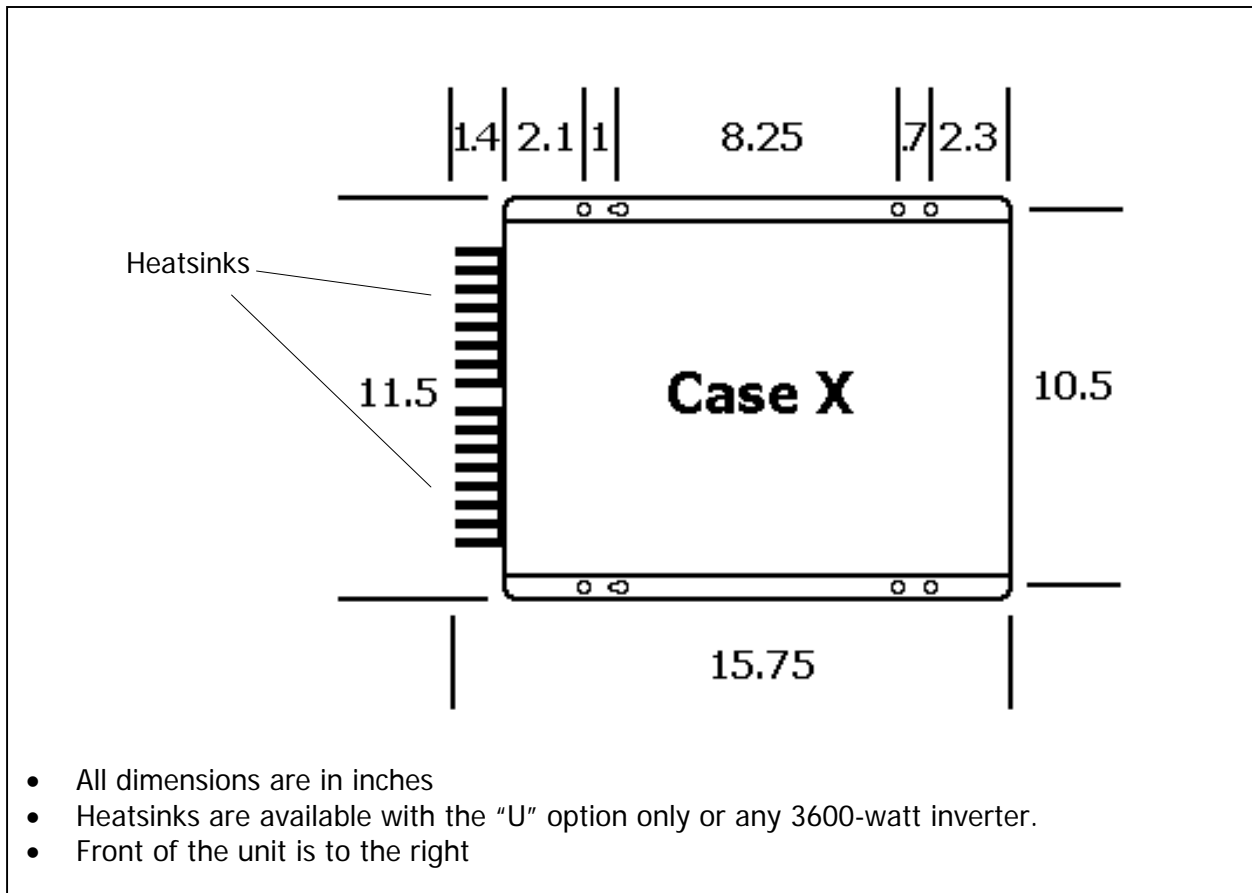

Figure 3: SPS footprint
- Locate the mounting holes on the chassis flanges and fasten them using 1/4 inch diameter screws to secure the inverter. See figure 3, page 10.